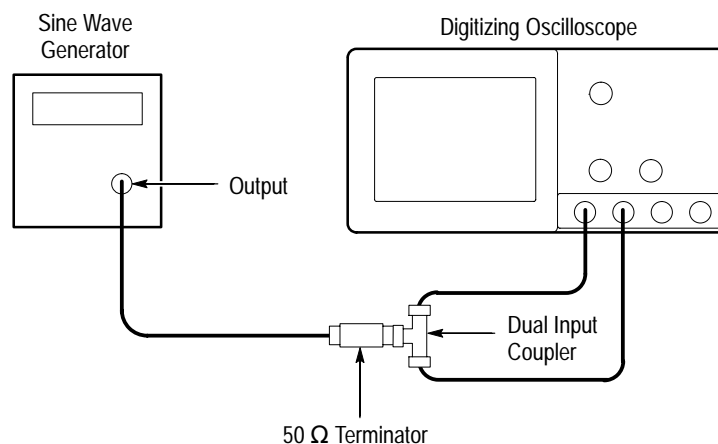

Figure 1–8: Initial Test Hookup
- Connect the sine wave output of a sine wave generator to a 50 Ω precision coaxial cable, a 50 Ω termination, and a dual-input coupler. (See Figure 1–8.)